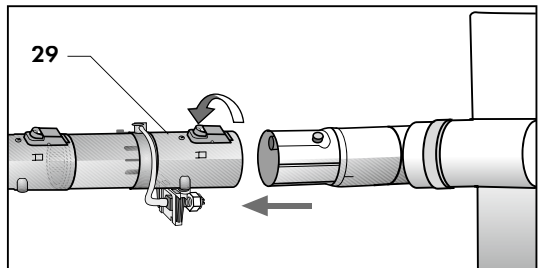

Fig. 14
- install the female end of the sprinkler to the end of the brush and rotate the ring to lock the two parts together (Fig. 14)